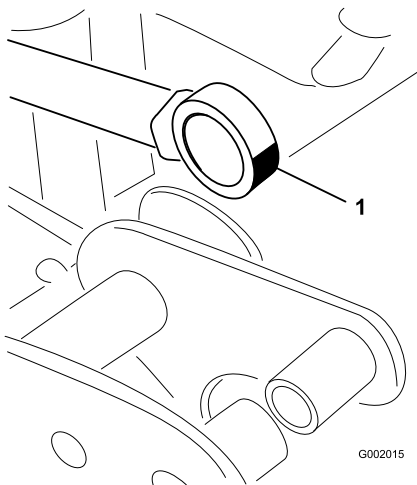

Figure 51
- Manipulate the actuator rod bearing end and apply grease into the bearing (Figure 51). Wipe off excess grease.